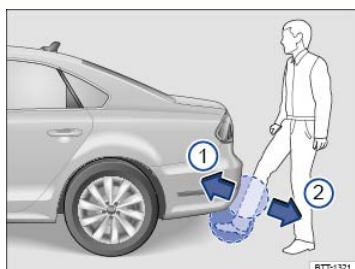

Fig. 29 Opening the sensor-controlled trunk lid (Easy Open).
When a valid vehicle key is within range of the trunk lid, the trunk lid can be unlocked and opened by moving your foot within the sensor's range ⇒ Fig. 29 below the rear bumper.
- Quickly move your foot and shin as close to the bumper as possible. Your shin must be in the upper part of the sensor's range and your foot in the lower part ⇒ Fig. 29 ①.
- Quickly move your shin out of range ⇒ Fig. 29 ②. The trunk lid opens automatically.